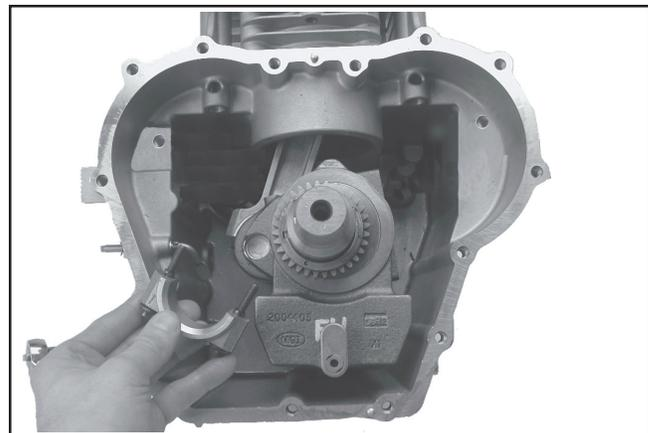

**Figure 8-43. Separating Oil Pump Assembly from Intake Side Cam Shaft.**
5. If necessary, the oil pump can be separated from the intake side cam shaft. Providing appropriate support for the shaft, drive out the lower pin. The oil pump assembly can then be removed from the cam shaft. See Figure 8-43.